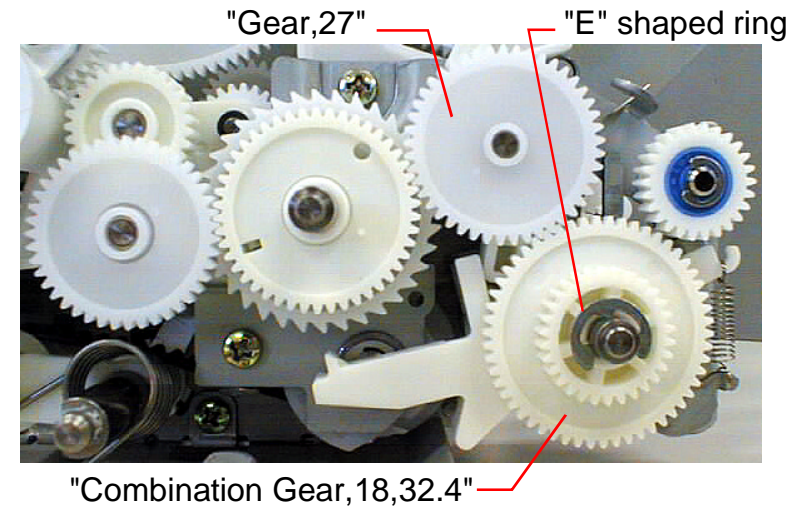

Figure 4-125. Installing the rest parts of "Frame Assembly, Middle, Right"(2)
48. Install "Gear,27". (Refer to Figure4-125)
(Refer to Figure4-125)